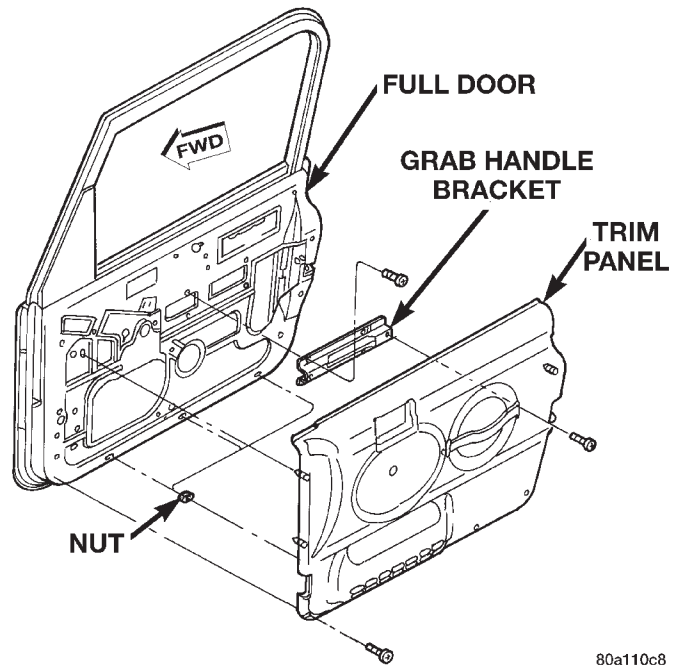

Fig. 17 Full Door Trim Panel
- (1) Lower the window.
- (2) Remove the clip attaching the window glass regulator handle to the regulator. Remove the handle.
- (3) Remove the screws attaching trim panel to door (Fig. 17).
- (4) Remove push-in fasteners attaching trim panel to door with special tool C-4829.
- (5) Lift the trim panel upward and separate the trim panel from the door.